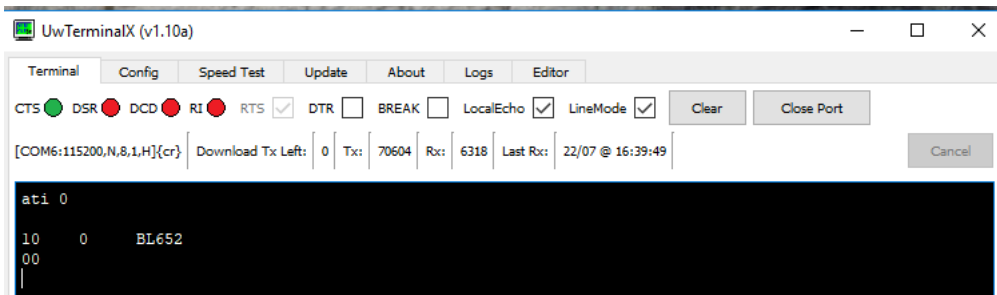

Figure 4: Device name
7. Type **ati 0** and press **Enter** to confirm the module is accessible. The module then returns the Device Name, if accessible, as shown in Figure 4.